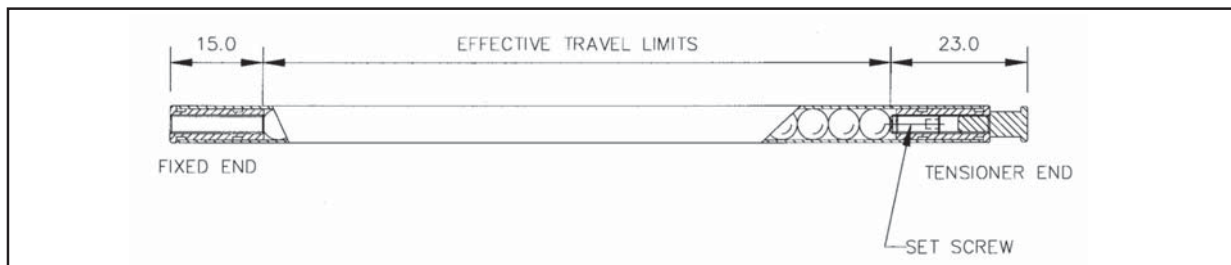

Figure 5.7 - The Microsyn Scale
- (A) Erroneous readings will occur if the Microsyn Reader Head is allowed to travel beyond Effective Travel Limits. (Refer to Figure 5.7)
- (B) The pre-load on the balls are factory set via the set screw at the tensioner end. Do not tamper with or adjust the set screw as this will alter the calibration and accuracy specification of the scale and void the warranty.